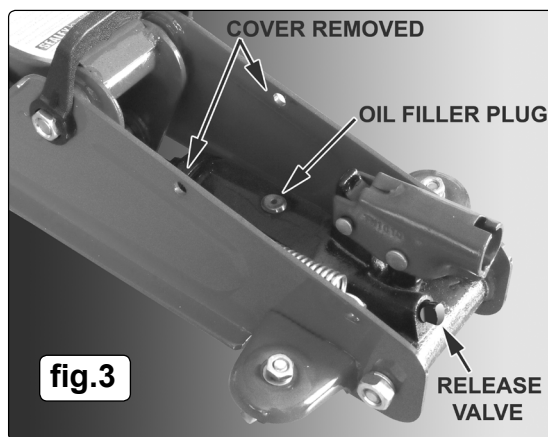

fig.3
- 4.6. To check the oil level, fully lower the jack. Remove the two bolts that hold the black cover in place and prise out the cover from between the side walls of the jack. Remove oil filler plug (fig.3). The correct level is just below the bottom of the plug. If oil level is low, fill as required. Replace cover. NOTE: Use a good quality jack oil, such as SEALEY HYDRAULIC JACK OIL.